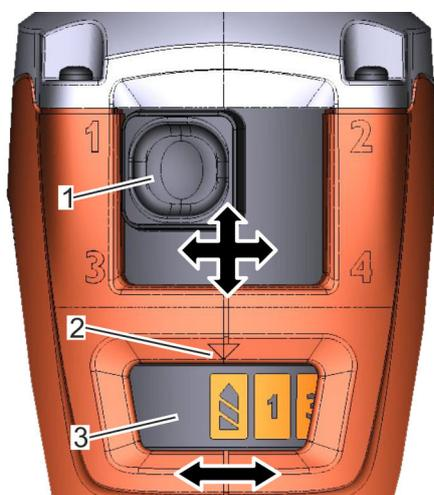

Fig. 18: Gear setting and setting levels
3. Set gear (Fig. 18/1) 4 to 1 (manual gearbox setting).
4. Set setting level (Fig. 18/3) 1 to 15 (electronic setting).